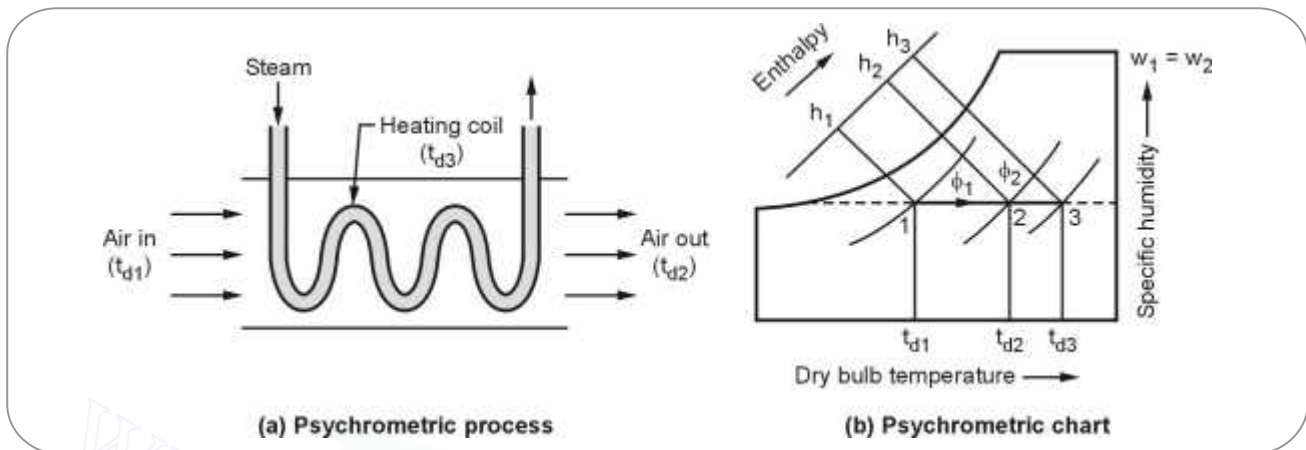

Fig. 5.67 : Sensible heating
- Since no moisture is added or removed from the air, the process is shown by horizontal line 1-2 from left to right as shown in Fig. 5.67 an psychrometric chart.
- During sensible heating, the specific humidity remains constant ( $w_1 = w_2$ ). The DBT of entering air increases from  $t_{d1}$  to  $t_{d2}$  and RH reduces from  $\phi_1$  to  $\phi_2$  as shown in Fig. 5.67 (b).
- The heat absorbed by the air during sensible heating is obtained from the psychrometric chart by the enthalpy difference ( $h_2 - h_1$ ) as shown in Fig. 5.67 (b).